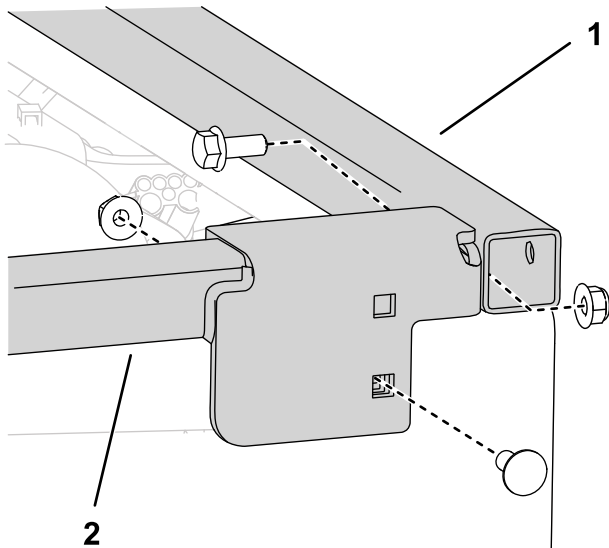

Figure 11
4. Connect the right bed spacer assembly to the front tube frame with a bolt and to the bed frame assembly with a carriage bolt as shown in Figure 11.